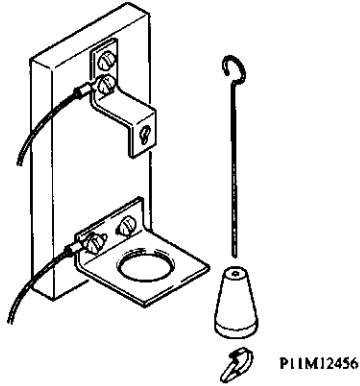

FIGURE 9: PLUMB BOB TILT ASSEMBLY
17) Locate plumb bob parts. Insert hook wire into tapered end of lead weight. Insert retaining ring on to hook wire by sliding hook wire through holes on retaining ring. Raise wire & weight up into bottom tilt bracket and hang from top bracket (see Figure 9).